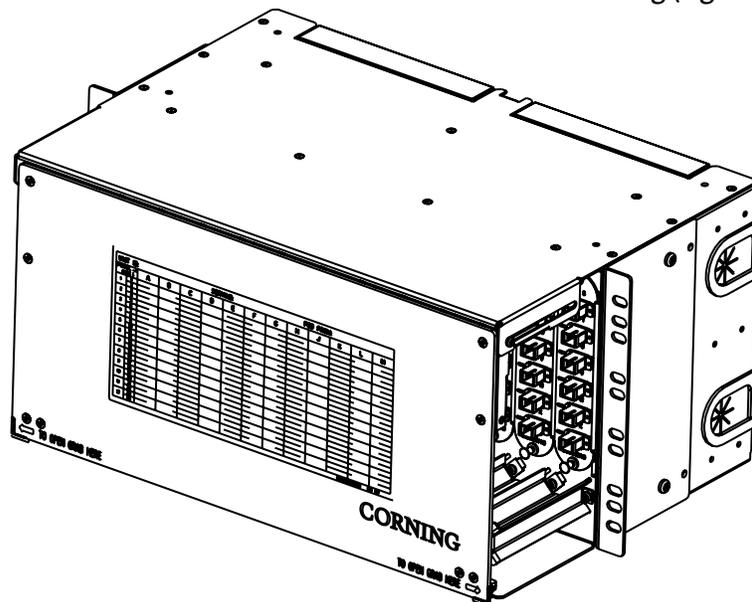

Figure 1
This document describes the installation of RCH-05U Reverse Connector Housing (Figure 1).
- Step 2:** Attach identification (ID) label to front door as shown in Figure 1. Record information appropriately on the ID label.